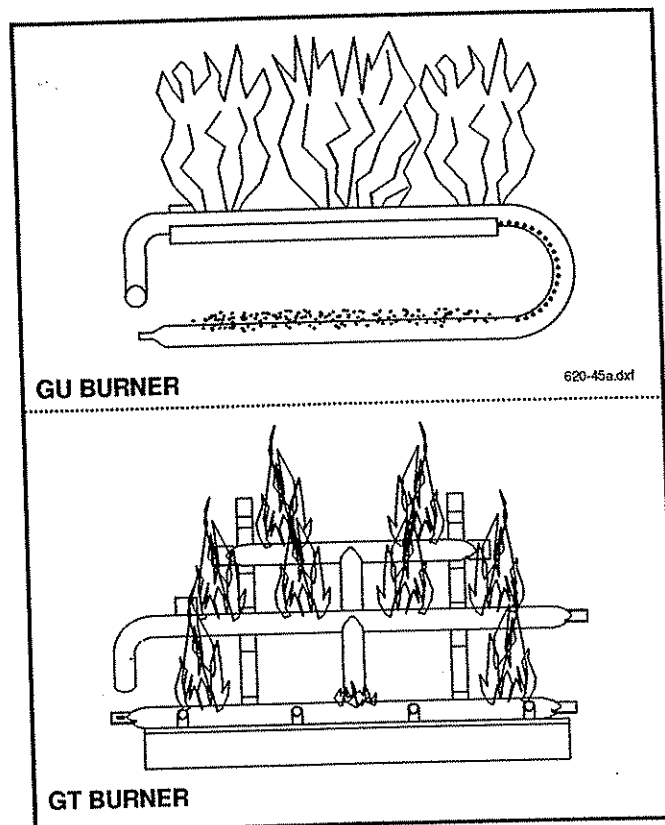

Fig. 45. Flame patterns.
3. Visually inspect pilot. Brush or blow away any dust or lint accumulations. If pilot orifice is plugged, disassembly may be required to remove any foreign material from orifice or tubing. When appliance is put back in service, check flame patterns with Fig. 45.